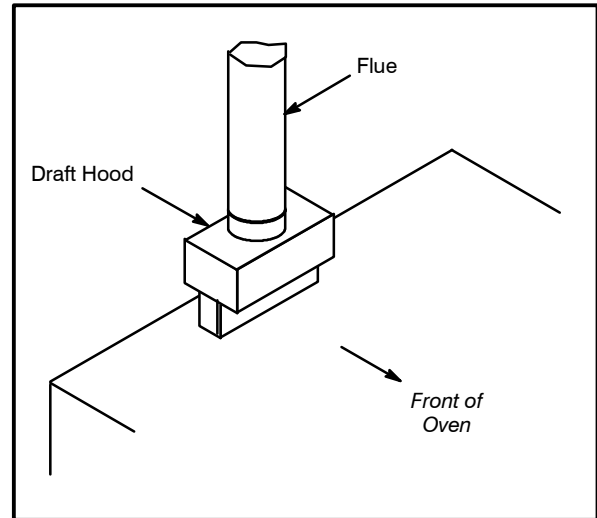

Figure 7
1. Place the draft hood over the flue connector. See Figure 7.